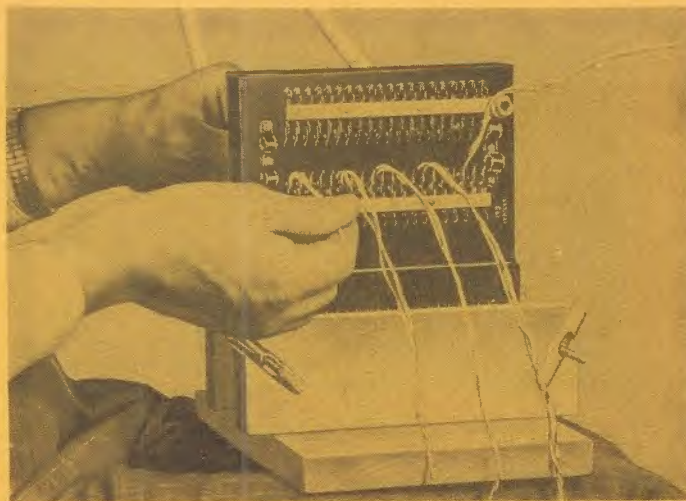

FIG. 6. FANNING CABLES USING JIG.
- (c) Start the fanning with the Blue-Brown and Brown-Slate pairs through hole 37-40, and pull these pairs until the cable butt is hard against the hole. To hold the cable in its correct position wind these pairs twice around the adjacent pillar. (See Fig. 6.)